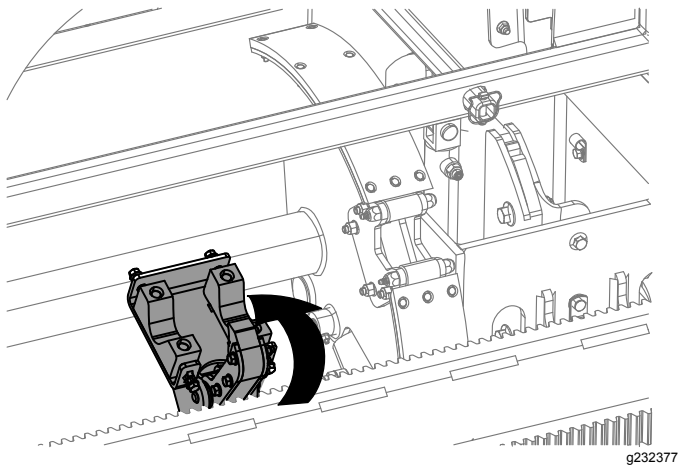

**Figure 11**
4. Release the rocker switch to proceed to the next step in the sequence (Figure 11).